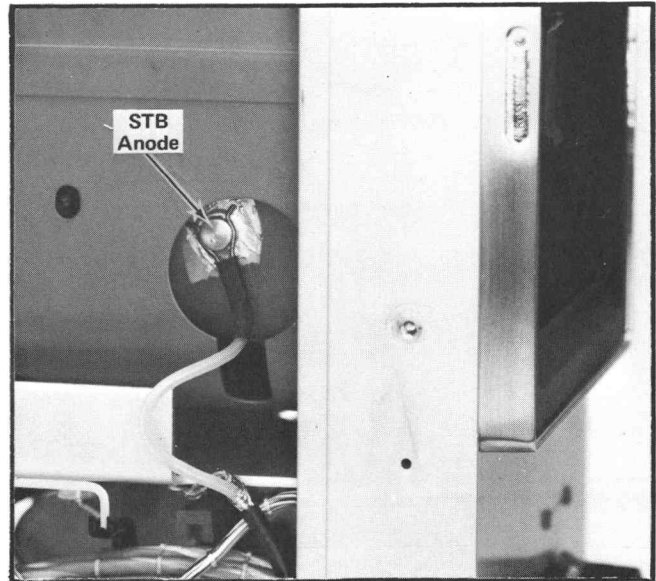

Fig. 5-8. Location of Target anode.
b. Connect a DC Voltmeter set to the 300 volt range between the target anode (see Fig. 5-8) and ground.